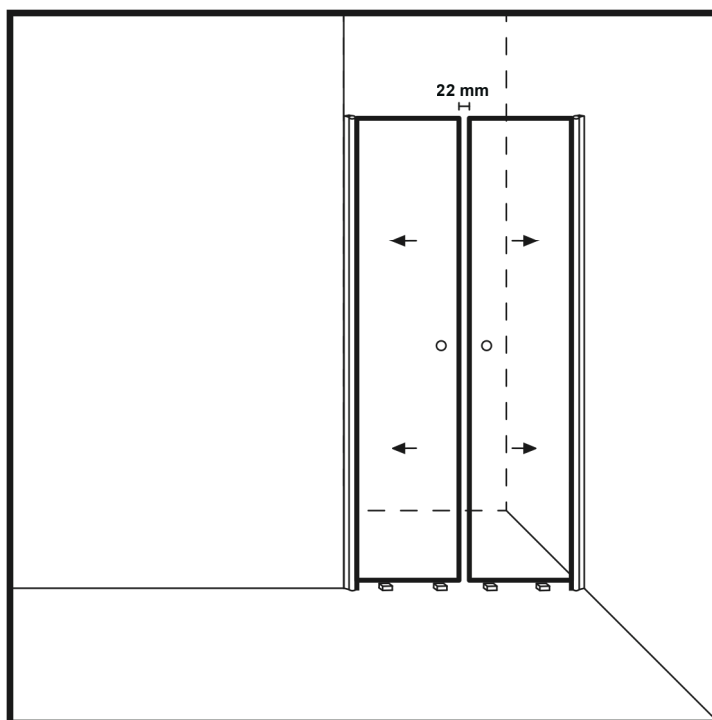

Figure 3
9. Place wooden blocks (max. thickness 1 cm) on the floor, where you can support the door glass in the package, which has a mono-hinges already installed by the manufacturer. (Figure 3)